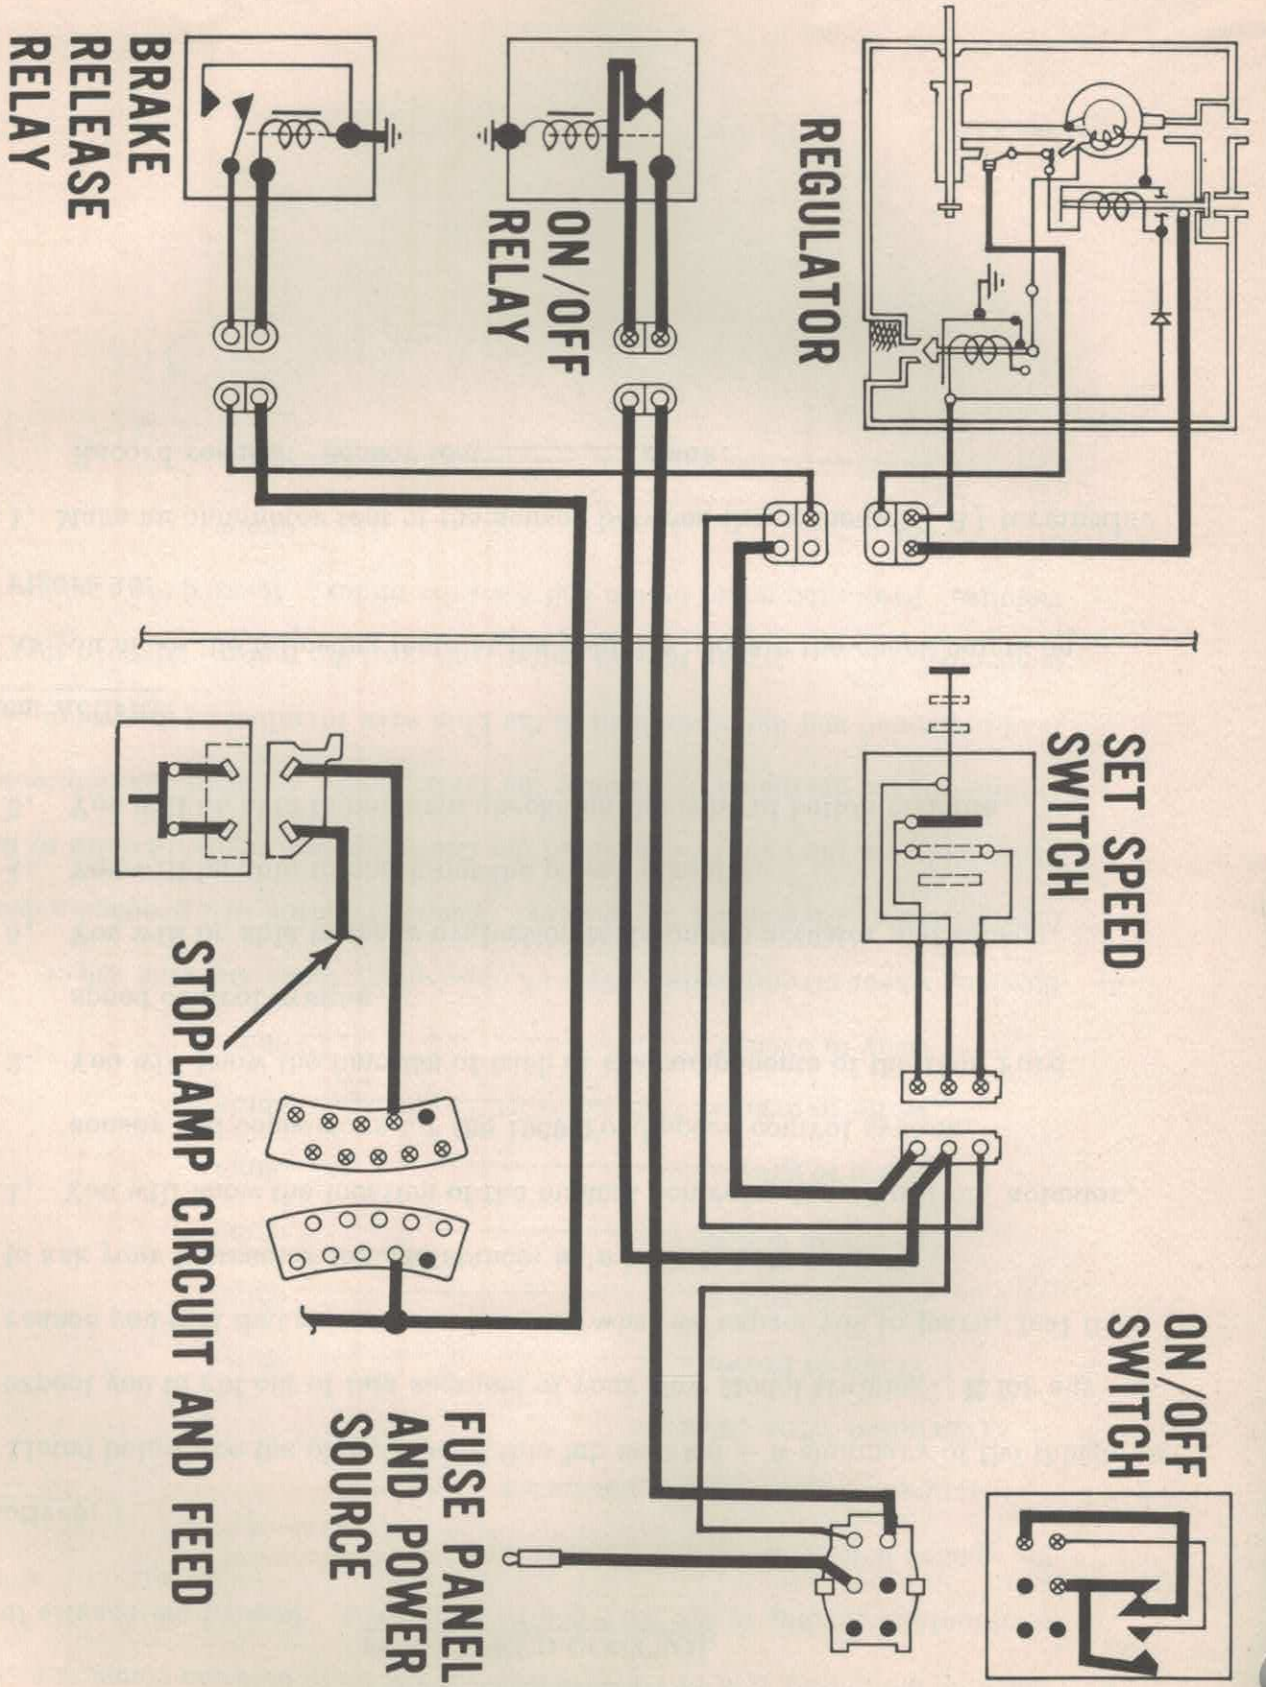

Figure 15 — 1969 Mustang-Cougar Brake Circuit
5. Using the workbook diagram Figure 15, at what point is the speed control operating circuit opened when the brakes are applied?